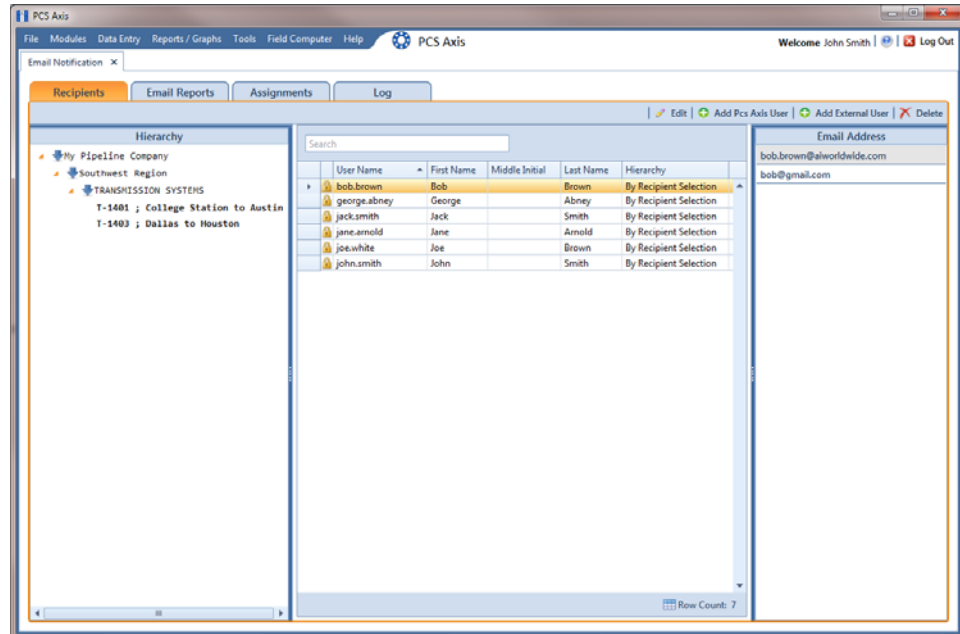

Figure 12-1. Recipients / Add PCS Axis User
- 3 Select a user name in the center panel (Figure 12-1, page 531).